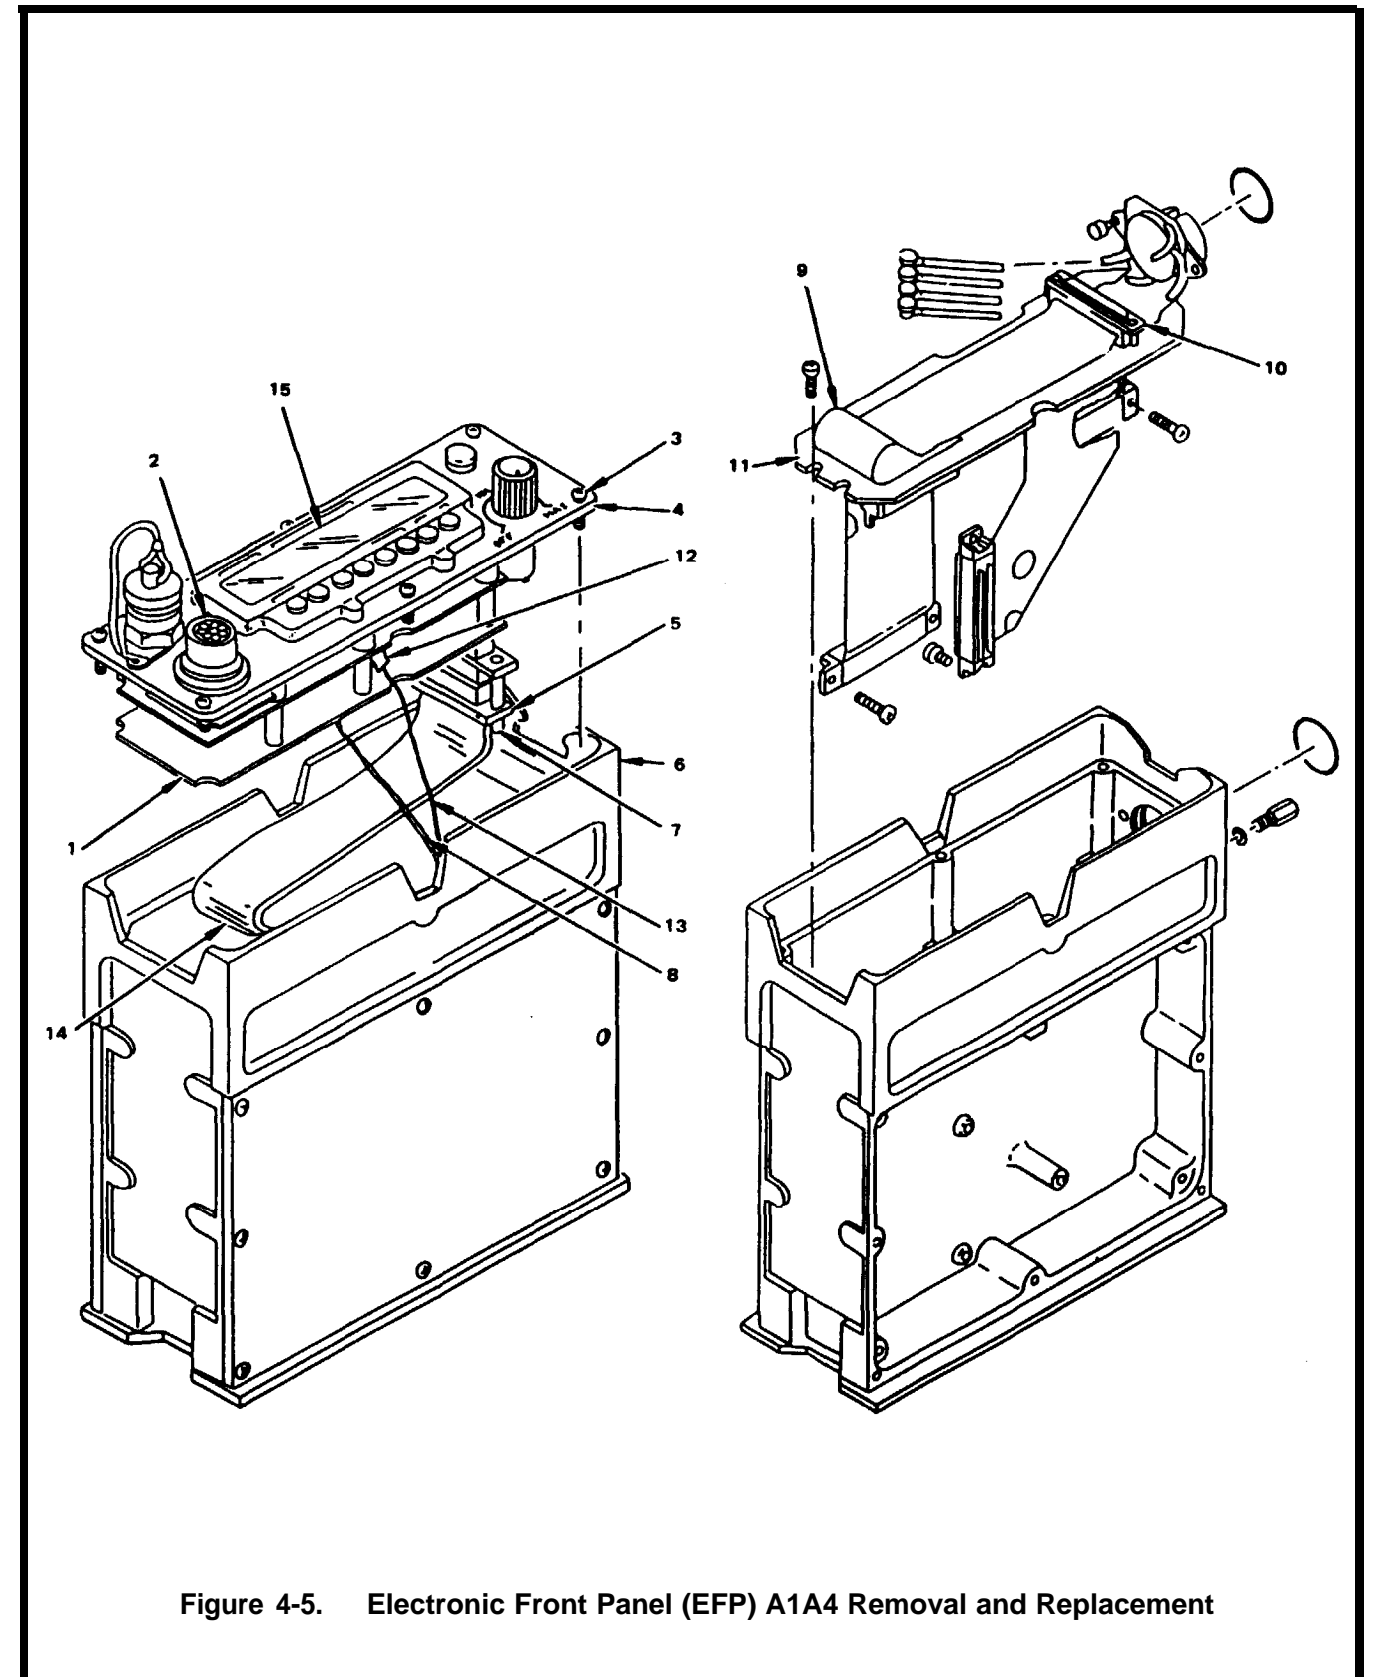

Figure 4-5. Electronic Front Panel (EFP) A1A4 Removal and Replacement
**ELECTRONIC FRONT PANEL (EFP) A1A4 REMOVAL AND REPLACEMENT, fig 4-5**